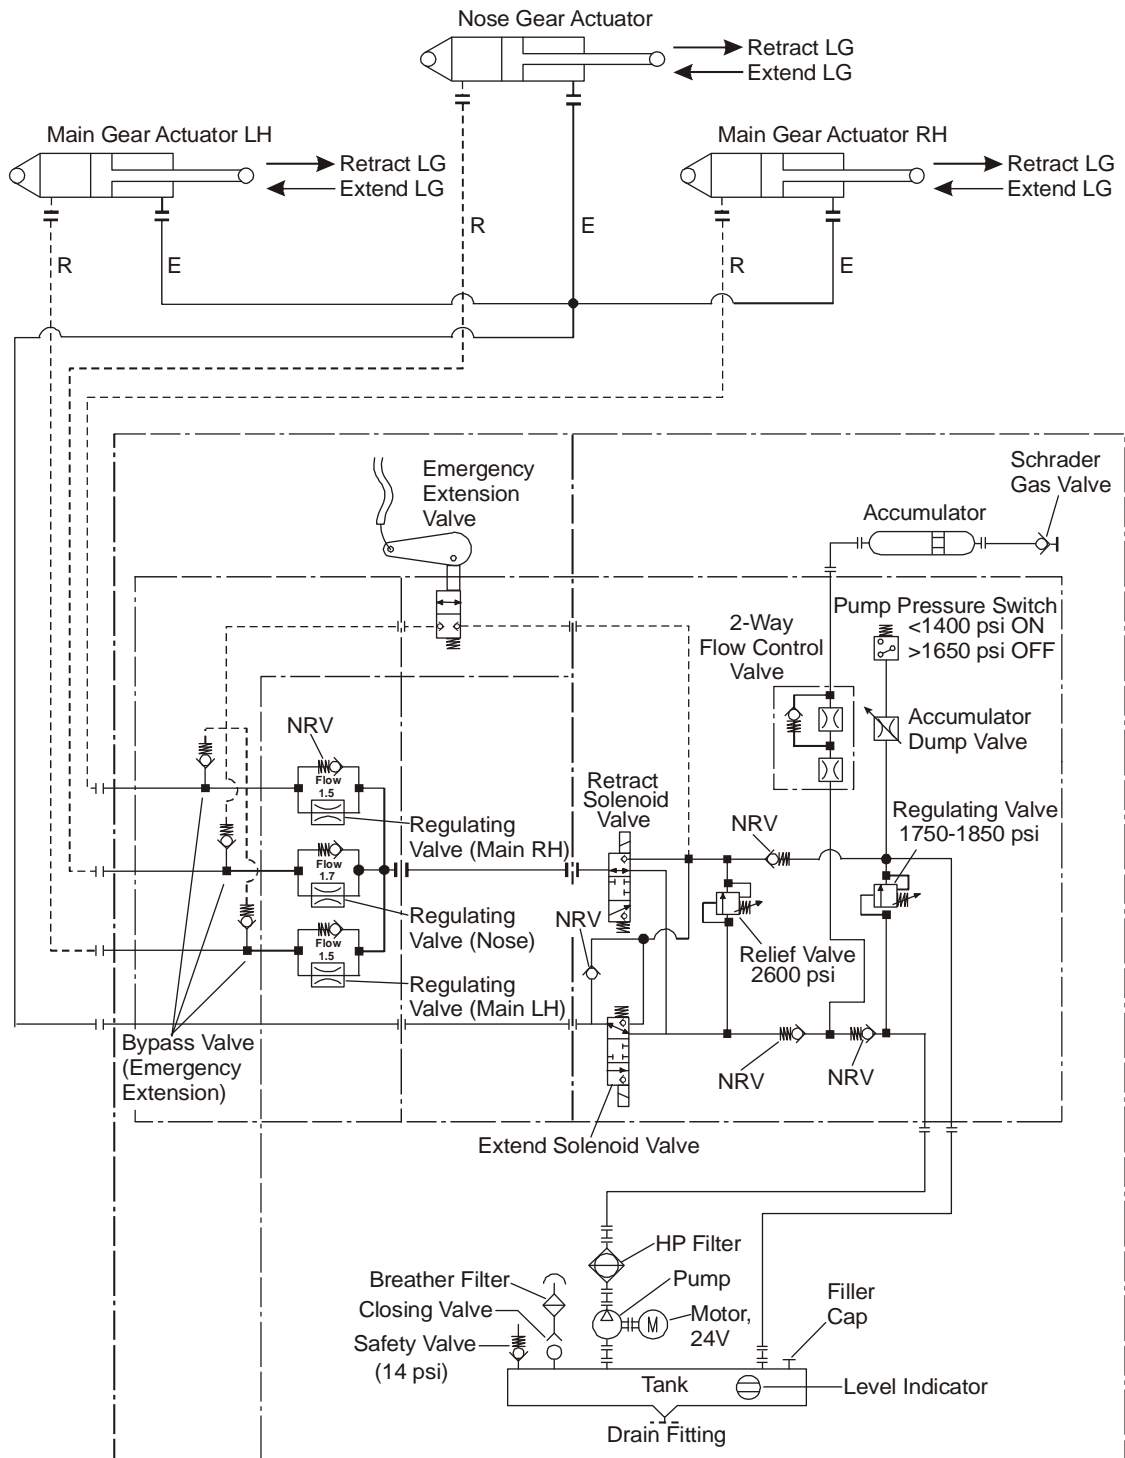

Figure 4: Hydraulic Schematic Diagram - 'Differential Pressure' Retraction Operation
Figures 4 thru 7 show the hydraulic schematic diagrams for the operation of the landing gear.
- The electrical circuit to the hydraulic pump is made and the pump will operate if the system pressure is less than 96.5 bar (1400 PSI). The retract solenoid valve is energized through the LH main gear 'weight-on-wheels' micro-switch and allows fluid to flow from the pump to the retract side of the actuator. The extend solenoid valve is de-energized and allows fluid to flow from the pump to the extend side of the actuator (Figure 4).